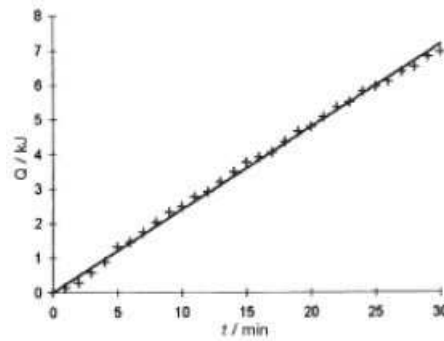

Fig. 3: Heat of surroundings over time.
$dQ/dt$  for the ambient heat can be calculated from the slope of the graph in Fig. 3.  $dQ/dt$  for the entire set-up can be calculated from the slope of the graph of  $Q$  over  $t$  in Figs. 4 and 5. With the values for the length of the rod ( $\Delta x = 31.5 \text{ cm}$ ), the area ( $A = 4.91 \cdot 10^{-4} \text{ m}^2$ ) and the averaged temperature on the metal rod, the heat conduction number can be calculated using equation (1). The following result as the average values: